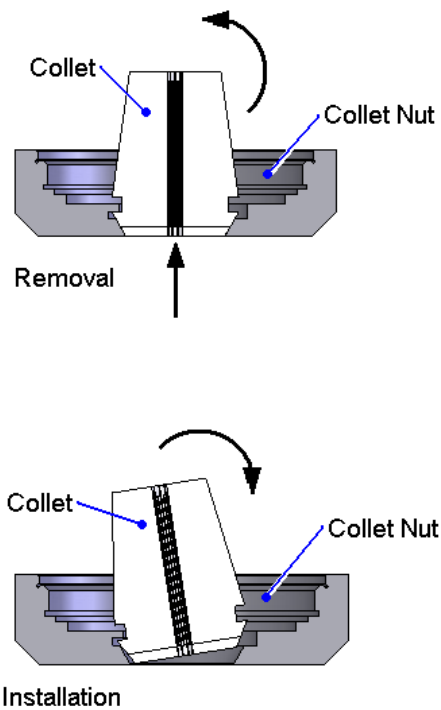

Figure 4-11: Schematic of Collet Insertion Into and Removal from Collet Nut
4. Once the collet nut has been removed, remove the collet from the nut. Figure 4-11 shows the proper installation and removal procedures.
5. Clean the collet housing, collet nut threads, collet nut, and new collet, and then insert the collet into the nut (acetone or isopropyl alcohol may be used to clean the metal components). The insertion method is shown in Figure 4-11 and is the reverse of removal. A small amount of grease can be applied to the taper to reduce wear.